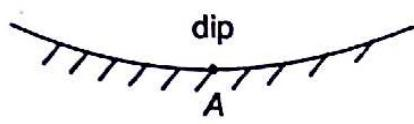

Fig. 11.14
11.1 A car is moving in a curvilinear path at a constant speed when the car passes through dip it is subjected to normal acceleration of $0.6g$. If radius of curvature of path is 100 m. What is speed of car (Fig. 11.14)?